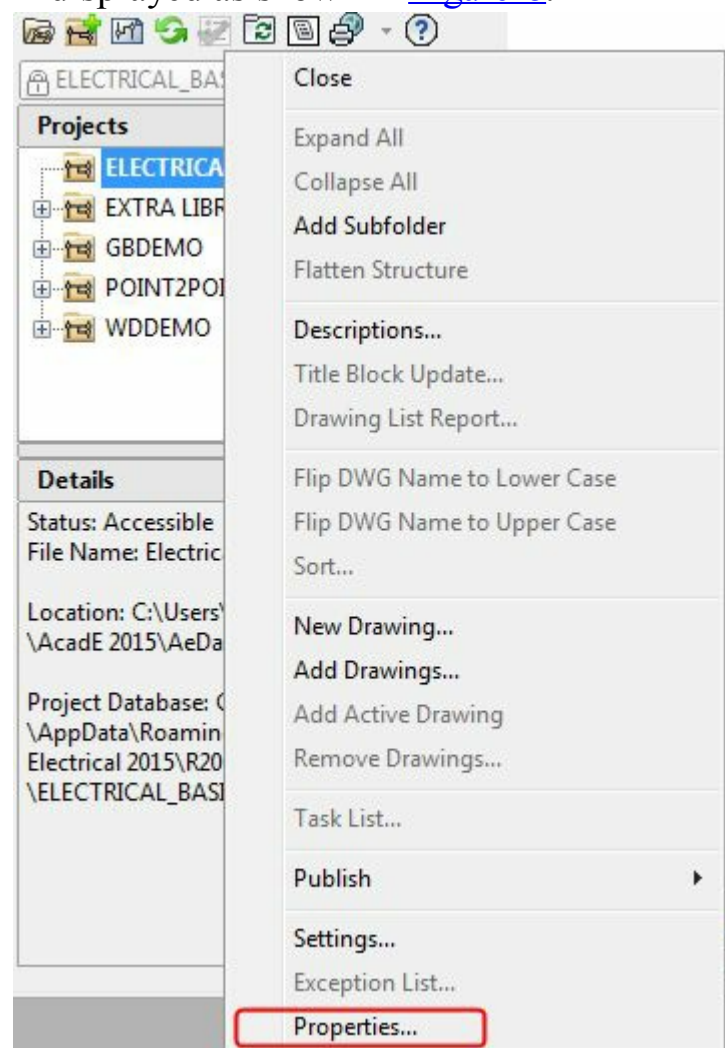

Figure-10. Shortcut menu
- Right-click on the name of the project in the **Project Manager** whose properties are need to be changed. A shortcut menu will be displayed; refer to Figure-10.